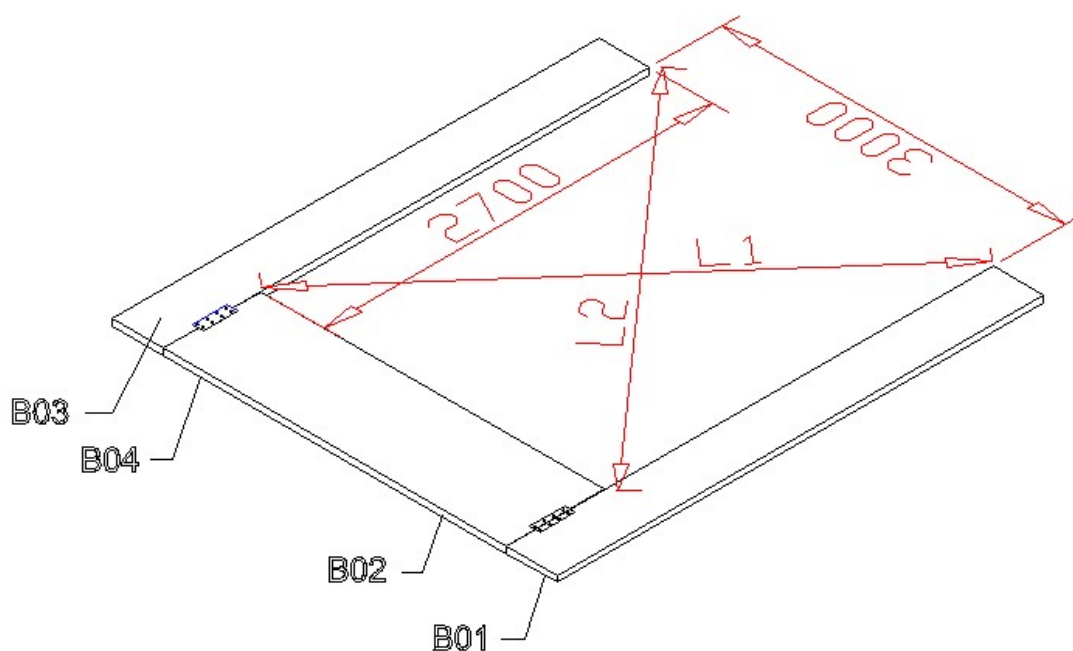

Fig. 3.6
Installate the front door frame (shown in Fig.3.6)
- 2) Measure the diagonal of the length and width, when they are suitable for the demand of the door frame size (shown in Fig.3.6), $L1=L2$, fix the door frame with appoint connect board (B04). Pay attention to that check the sizes of the door frame after fixing.